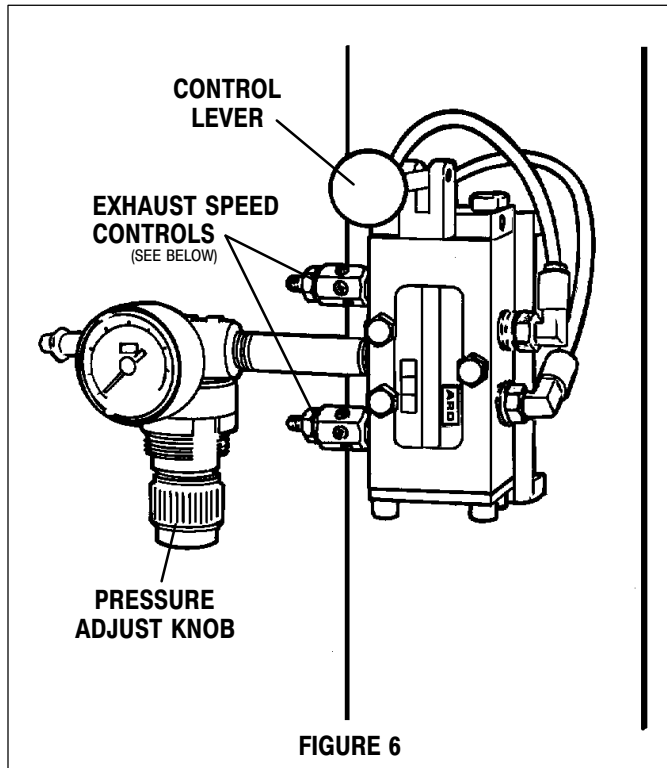

FIGURE 6
1. **If an Air Assist Kit is not used** (See Fig 6) remove the Follower Plate vent plug to prevent a build up of vacuum when raising the follower.